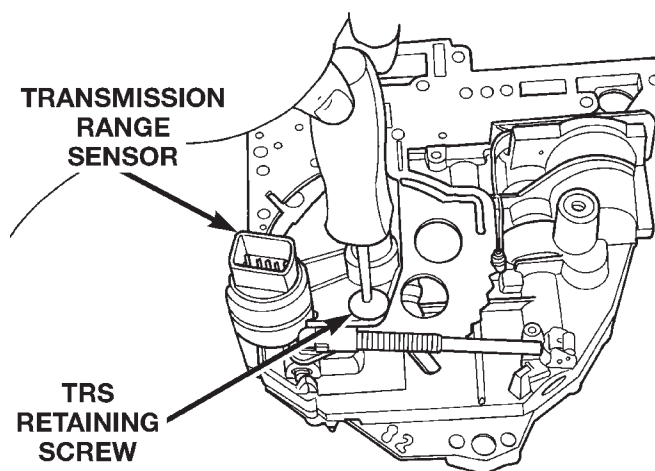

Fig. 26 Remove Retaining Screw
- (12) Remove TRS retaining screw (Fig. 26).